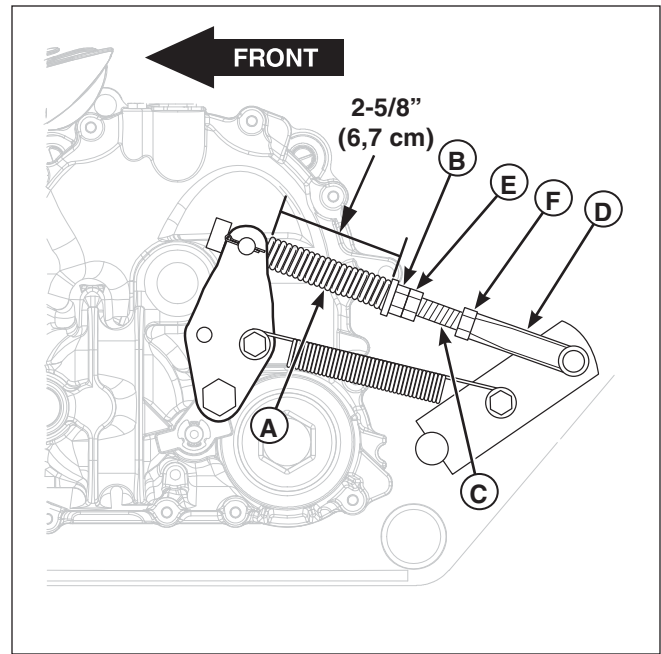

Figure 31. Parking Brake Adjustment
2. Locate the brake springs (A, Figure 31) underneath the rear of the machine.